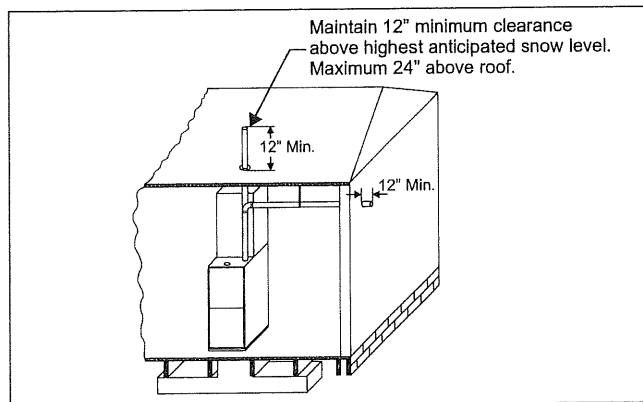

FIGURE 31: Termination Configuration - 1 Pipe
The combustion air side of the single pipe configuration shown in Figure 31 is referred to in these instructions as ambient combustion air supply. Follow the instructions for ambient combustion air installations, paying particular attention to the section on air source from inside the building. The vent for a single pipe system must be installed as specified in the venting section of these instructions with the vent terminating as shown in Figure 31. Each furnace must have a separate vent pipe. Under NO circumstances can the two vent pipes be tied together.
2. **AMBIENT COMBUSTION AIR:** Combustion air is supplied from the area surrounding the furnace through openings in the furnace casing. The combustion air and the vent pipes are not terminated in the same atmospheric zone. Refer to Figure 31 for vent terminations. Refer to "Ambient Combustion Air Supply" for proper installation. Refer to Figure 27.